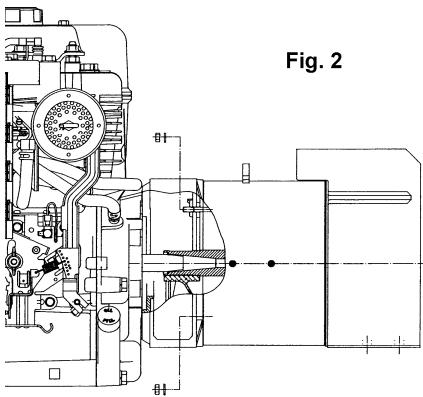

Fig. 2
-) lock the alternator into the cover by fixing the four M8 nuts onto the bolts, applying a tightening torque of $16\pm7\%$ Nm (figure 2)